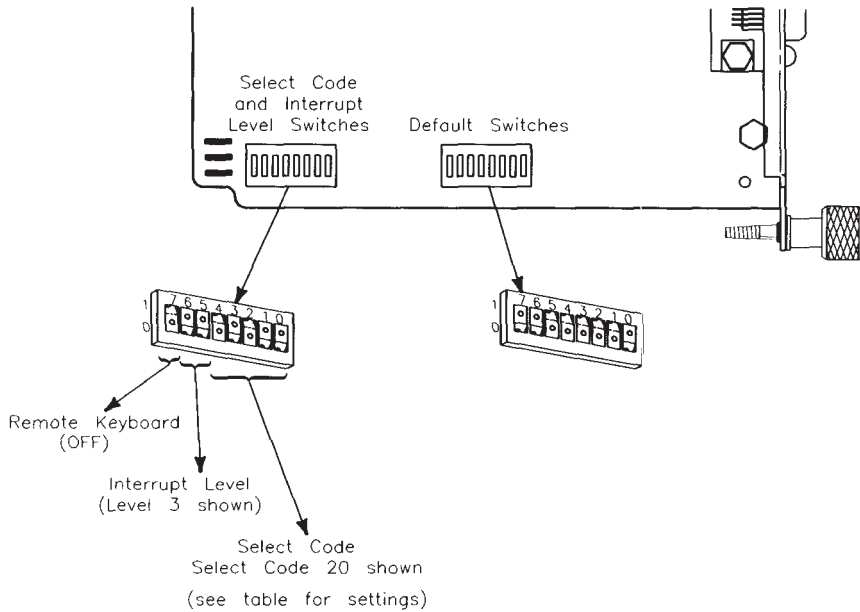

Figure 5-24.
- a. Find the set of select code and interrupt level switches by referring to Figure 5-24. Switches 0 thru 4 in this group determine the select code.
- a. Find the set of select code and interrupt level switches by referring to Figure 5-24. Switches 5 and 6 in this group determine the interrupt level.
- a. Find the set of select code and interrupt level switches by referring to Figure 5-24. Switch 7 in this group is the Remote switch.
- If you are connecting a terminal to this interface and want the terminal to be the system console, set this switch to *0* (remote), which is *opposite* that shown in Figure 5-24. Be aware that the boot ROM will not recognize this terminal as the system console, even though HP-UX will. No boot ROM messages will appear on the associated terminal; therefore, do not use the HP 98628A as a system console until after HP-UX is installed.
- If you are connecting a terminal to this interface but *do not* want the terminal to be the system console, set this switch to *1* (OFF) as shown in Figure 5-24.
- a. Find the Default switch group by referring to Figure 5-24. Switch 0 in this group is the protocol switch.
- If you want the Async protocol, used with most connections, set switch 0 to *0* as shown in Figure 5-24.
- If you want the HP DSN/Data Link protocol, used in networking with an HP 1000 host computer, set switch 0 to *1*, which is *opposite* that shown in Figure 5-24.
- a. Find the Default switch group by referring to Figure 5-24. Switches 1 thru 3 in this group determine the baud rate.
- If connecting a terminal or an HP 2686 *LaserJet* printer to this interface, set the baud rate switches to 9600. To get 9600 baud, set switches 3, 2 and 1 to *1* as shown in Figure 5-24.
- a. Find the Default switch group by referring to Figure 5-24. Switches 4 and 5 in this group determine the hardware handshake.
- If connecting an HP 2686 *LaserJet* printer, set both switches 5 and 4 to 1 as shown in Figure 5-24. This sets up a non-modem connection with the handshake on.
- If connecting a terminal or HP 39800/01A bar code reader, set both switches 4 and 5 to 0, which is *opposite* that shown in Figure 5-24. This sets up a non-modem connection with the handshake off.
- a. Find the Default switch group by referring to Figure 5-24. Switches 6 and 7 in this group determine the parity type/character length.
7 to 0 as shown in Figure 5-24. This sets up 8 bits/character and no parity.